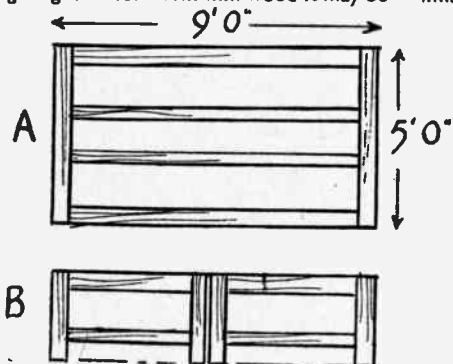

Fig. 1—The framework for the plywood
A framework on which the plywood is to be mounted must first be constructed. Fig. 1 (A) shows this, and as will be seen in the diagram, it consists of two long sides, two ends, and two long rails between. The latter can be cut from $1\frac{1}{2}$ in. wide stuff, the remainder from 2 in. stuff. All should be $\frac{7}{8}$ in. thick. To those who do not mind a little extra trouble, the lot could be sawn off a plank of the stated thickness. See the edges are planed quite square with the face sides.